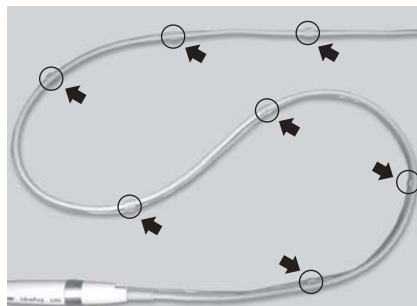

Fig.16
- Bundle the Handpiece Cord and the Irrigation Tube at a total of 7 locations as shown in Fig. 16.